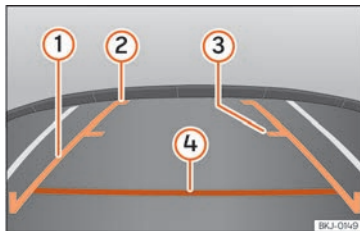

Fig. 174 Display on the Infotainment system screen.: guide lines.
- Vehicle load modifies the representation of the guide lines »» Fig. 174. The width represented by the lines decreases with vehicle load. Pay special attention to the surroundings when the inside of the vehicle of the luggage compartment are loaded.
Meaning of the orientation lines »» Fig. 174